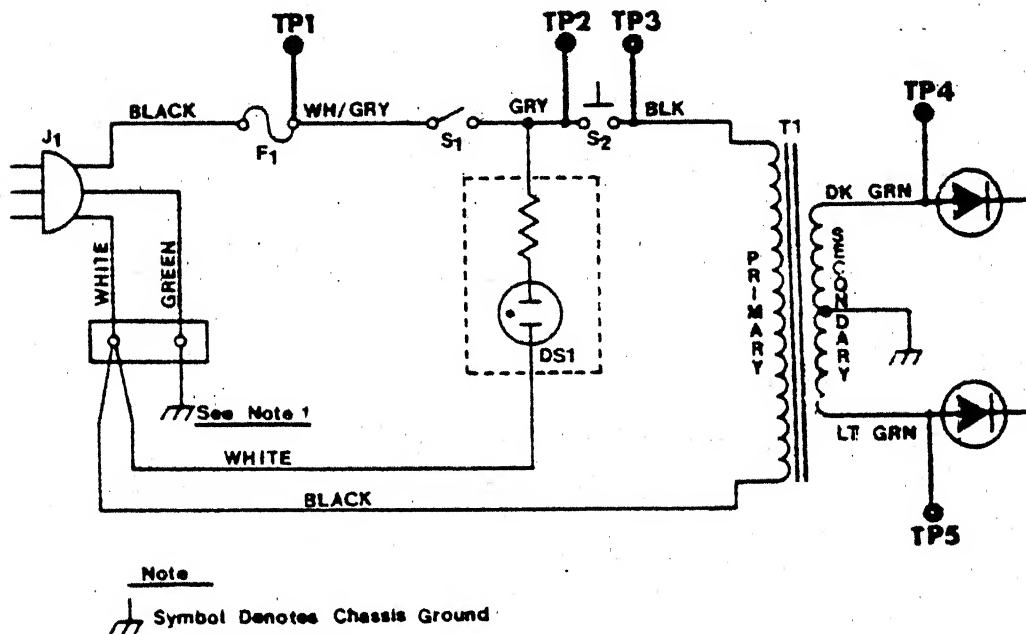

Figure 3. Schematic of Power Supply.
3. a. Locate TP1 on the lower left corner of the Power Supply chassis assembly plate. Place the tip of the oscilloscope probe on TP1. Refer to the schematic diagram (Figure 3) to see where the test points are connected in the Power Supply circuit. Plug in the Power Supply. Calculate and record the peak-to-peak voltage at TP1. TP1 measures _____ volts peak-to-peak.
4. On the schematic diagram in Figure 3, locate switch S2. When fuse F1 is installed and the power switch (S1) is turned on, there is an AC voltage present at this terminal. To measure the voltage at this point we would use TP2. Place the tip of the 10X probe in TP2, plug in the NIDA 201 Power Supply, and turn the power switch (S1) on
8. To answer questions 8a and 8b refer to Figure 3 (Schematic of Power Supply).